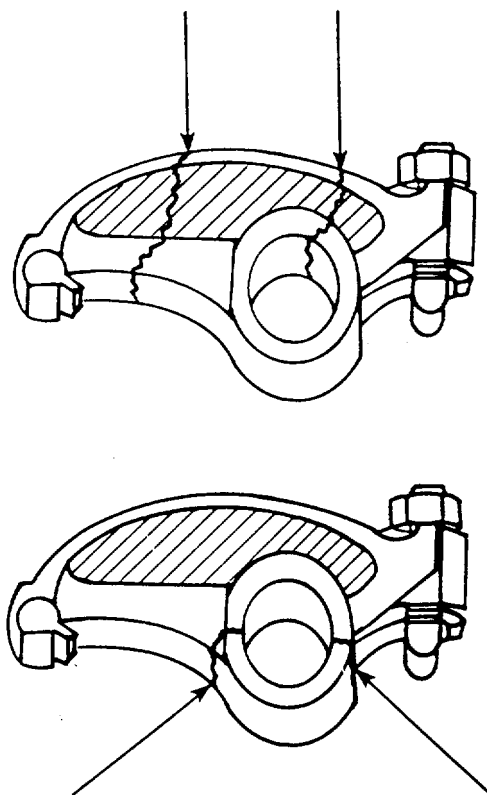

FIGURE 2-31. Crack Inspection Areas on Rocker Levers.
c. Clean the rocker levers [engine poppet valve rocker arms (13), exhaust levers (9) and injector levers (11)] with solvent and inspect as follows:
- (1) Use compressed air to clean out oil holes. Ensure holes are not blocked.
- (2) Visually check the rocker levers for cracks. Special attention should be given to the areas indicated in FIG. 2-31.